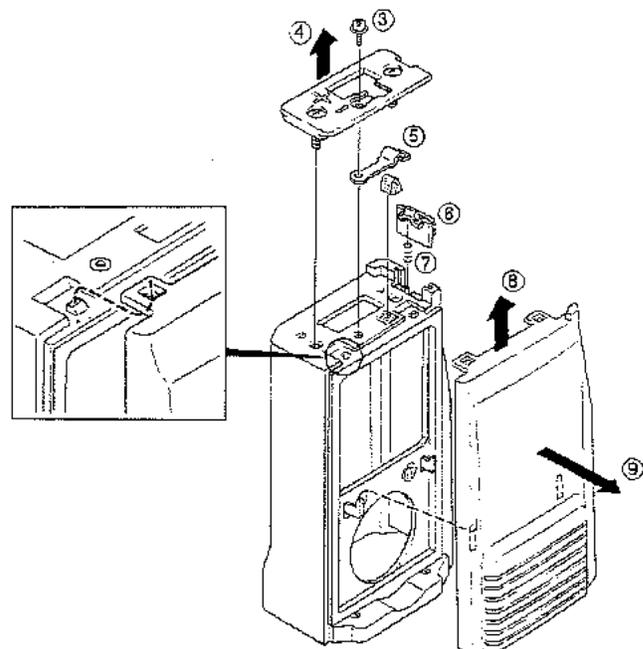

Fig. 6
2. Remove the one screw (N09-2053-05) holding the bottom plate (③), and remove the bottom plate (④). See Figure 6 for 2 to 6.
3. Remove the terminal (E23-0474-14) and cushion (G11-0617-04) (⑤).
4. Remove the release knob (⑥) and spring (G01-0867-04) (⑦).
- Note:** To remove the front half of the case from the rear half, push up the front panel in direction (⑧) shown in Figure 6 and remove it in direction (⑨).